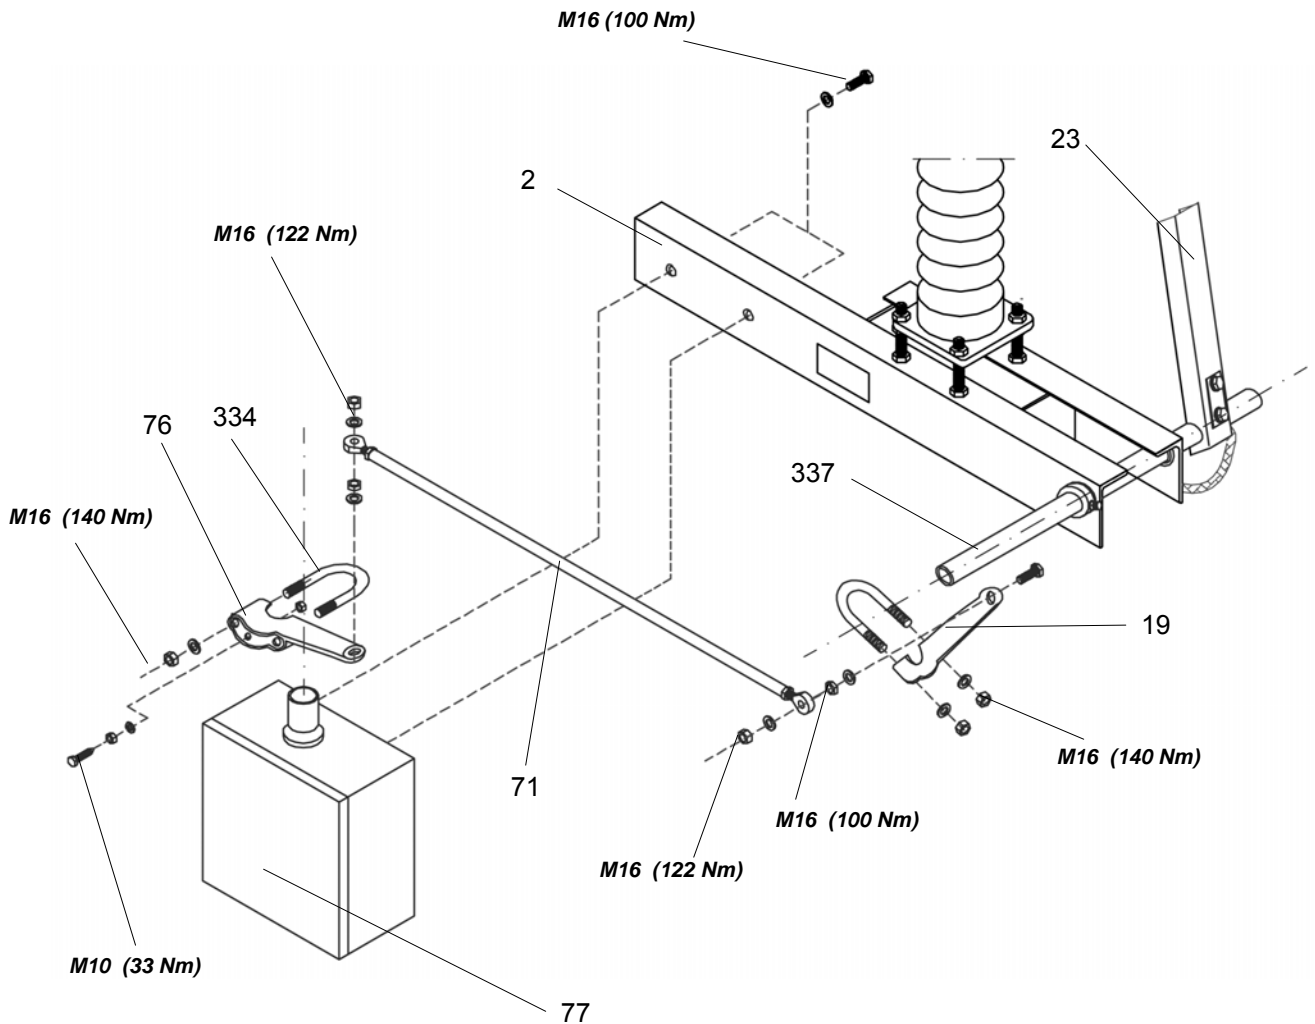

Figure 14: Mounting of operating mechanism for earthing switch: Direct mounting
1. Unpack operating mechanism (77)
2. Tighten operating mechanism to disconnecter base (2)
3. Fit operating lever (76) on the shaft end of the operating mechanism according to mounting side [Fig. 14]